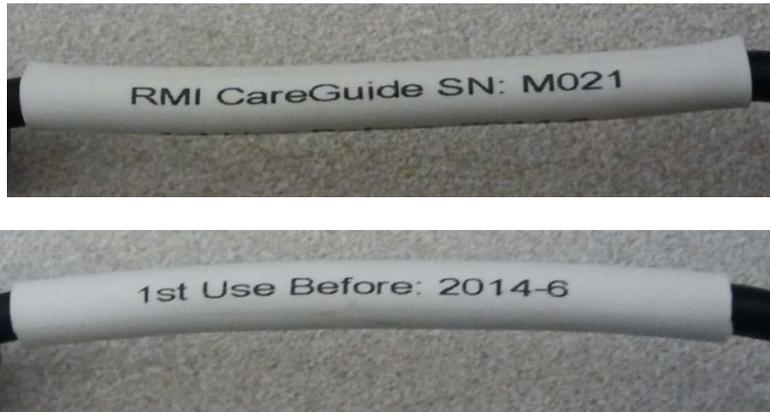

Figure 13.9: Sensor device label on the cable of the sensor
- Sensor with USB connector label (Figure 13.8) is printed on the cable of the Sensor (Figure 13.9).